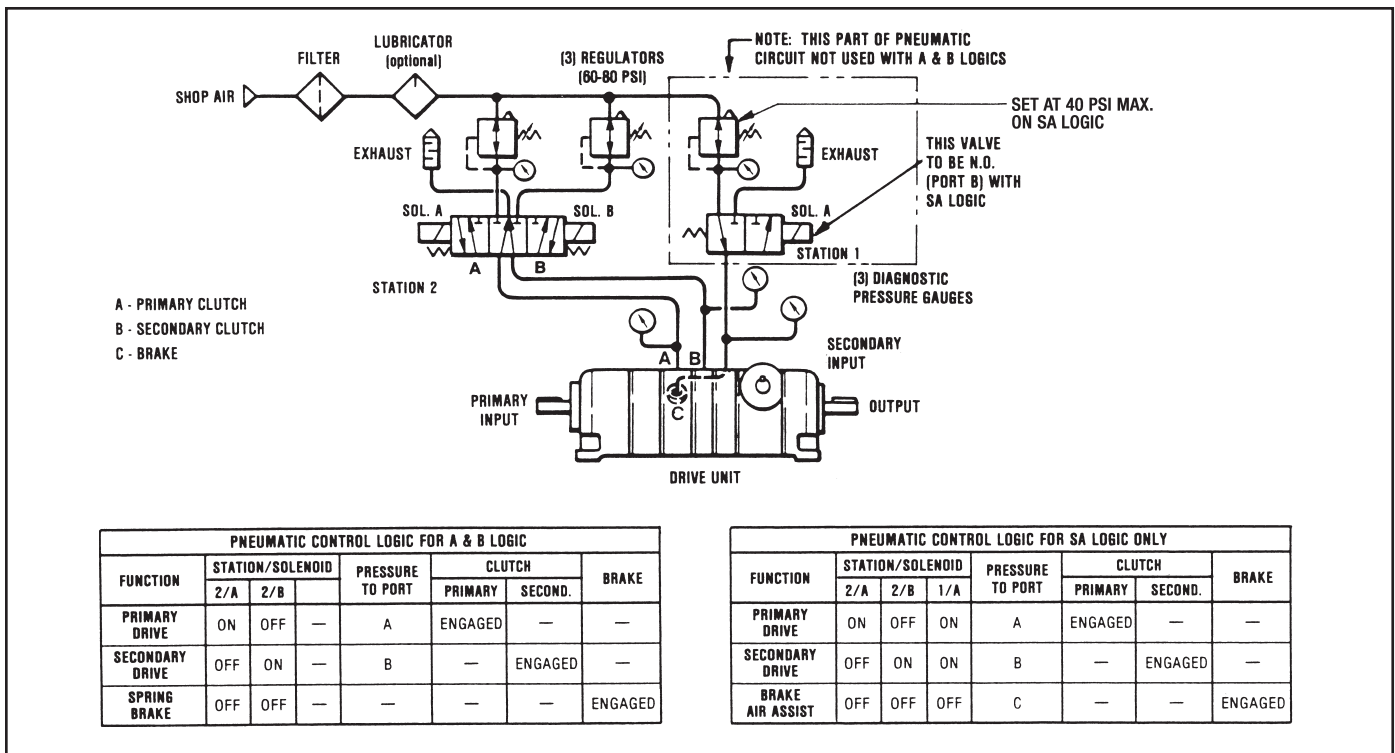

Figure 5.2 - Pneumatic Control Diagram
- Insert Diagnostic Pressure Gauges in the air supply between the control valves and the drive. (See Figure 5.2) Turn air supply back on.
- Activate Solenoid Control Valves for desired function. (See Pneumatic Control Logic Diagram on Figure 5.2.)